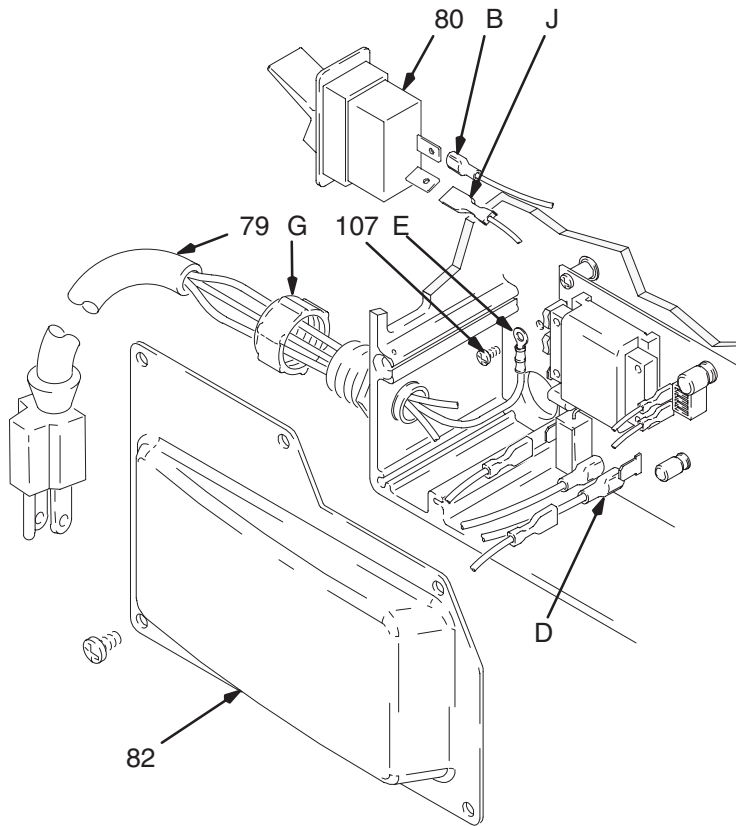

Fig. 15
**NOTE:** Read **General Repair Information** on page 16 before doing this procedure. See Fig. 15.
2. Remove pressure control cover (82).
3. Disconnect power supply cord black (J) lead from ON/OFF switch (80), the white wire (D) going to circuit board, and green wire (E) to grounding screw (107).
4. Loosen strain relief bushing (G) and remove power supply cord (79).
5. Install power supply cord (79) and tighten strain relief bushing (G).
6. Connect power supply cord black (J) lead to ON/OFF switch (80), white wire to circuit board (D), and green wire (E) to grounding screw (107).
7. Install pressure control cover (82).
3. Disconnect two wires (B) and (J) from ON/OFF switch (80).
4. Press in on two retaining tabs on each side of ON/OFF switch (80) and remove.
5. Install new ON/OFF switch (80) so tabs of switch snap into place on inside of pressure control housing.
6. Connect two wires (B) and (J) to ON/OFF switch.